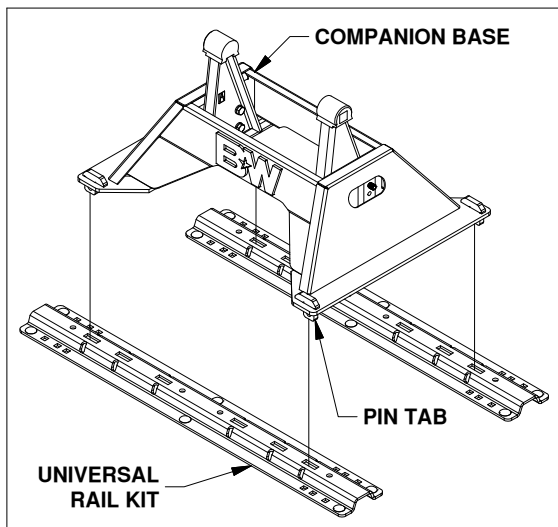

Figure B1: Rail attachment.
1. **Place base.** The Companion base will mount to a rail kit in the truck bed. Remove any debris and/or obstructions from the bed. Position the base over the rail attachment points. Carefully lower it until the pin tabs pass through the attachment points and the base rests flat against the top of the rails, see Figure B1.